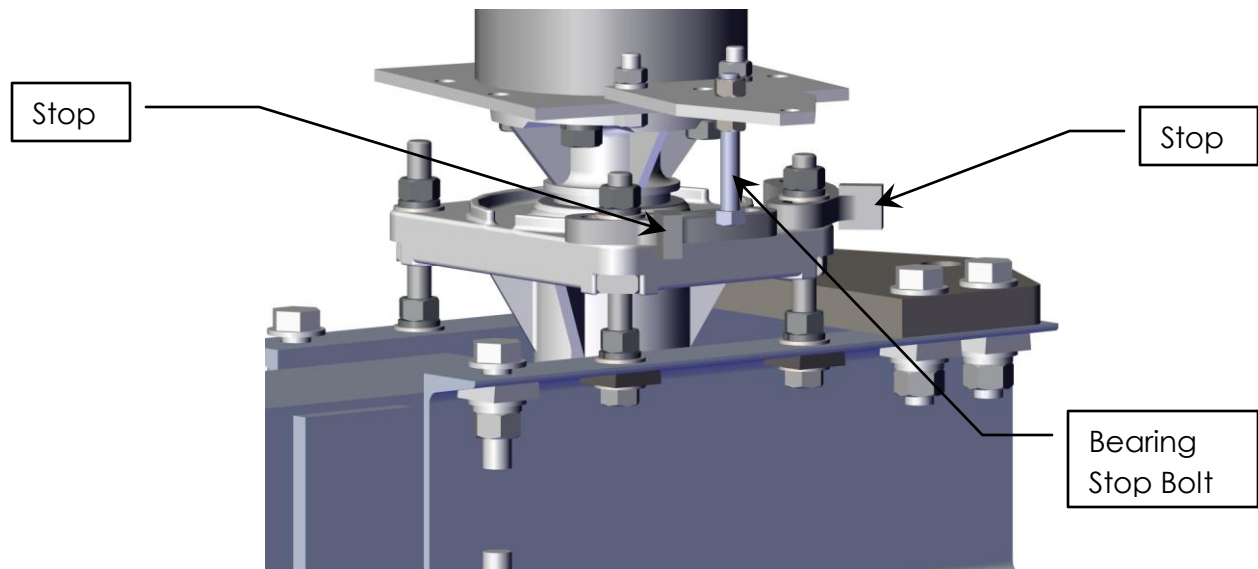

Figure 8: Bearing Stop Bolt Height
- 6) Extend the bearing stop bolt until it can interact with the bearing stops. See Figure 8.